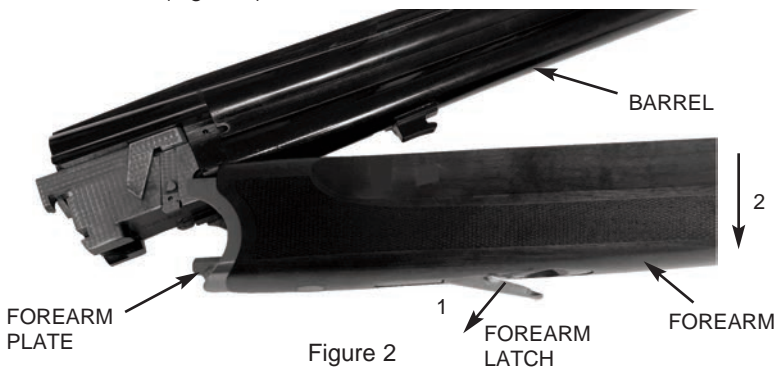

Figure 2
- To assemble the barrels to the stock/receiver assembly you must first remove the forearm. Locate the latch on the underside of the forearm. To remove the forearm, lift the forearm latch and pull the forearm away from the barrels (Figure 2).